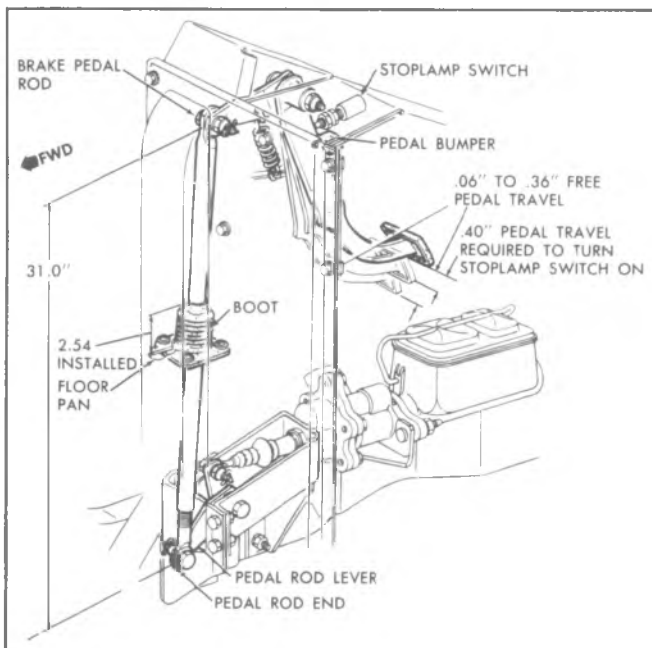

Fig. 5-13-Brake Pedal and Stop Lamp Adjustment
Replacement (Fig. 5-13)
11. Fasten the boot to the floorpan and compress the boot to 2.54" installed height; tighten the boot to 2.54" installed height; tighten the boot screws to 13-18 in. lbs. (Refer to Figure 5-13).